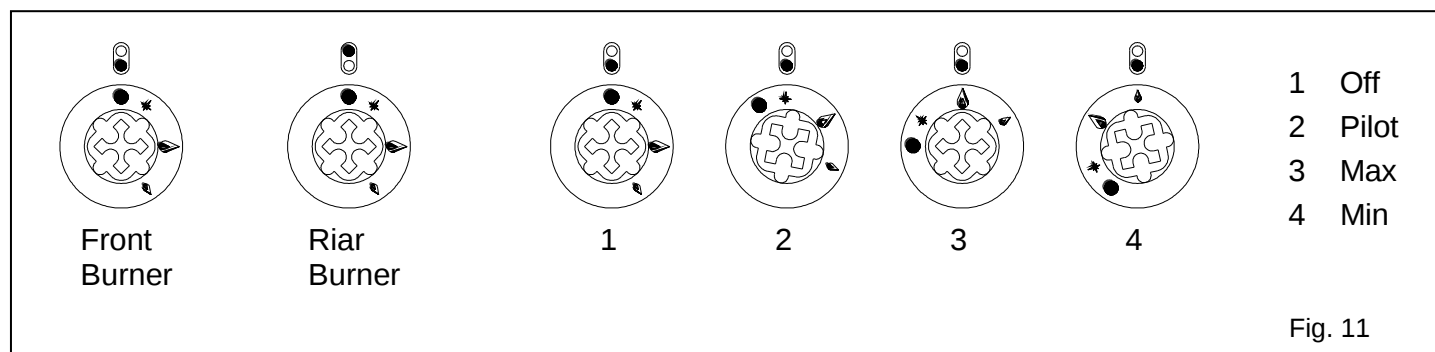

Fig. 11
7.1.1 Hotplate and naked flames (Fig. 11)